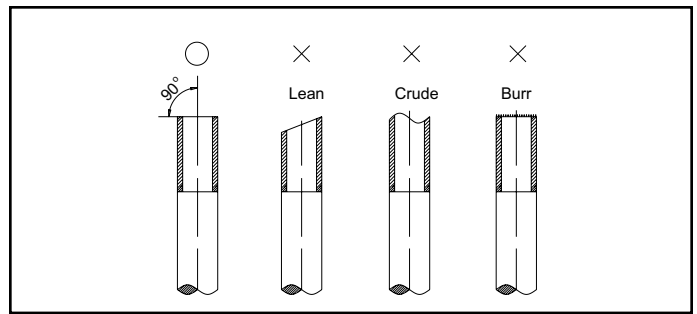

Figure 31. Cutting Piping
4. Cut the selected pipes with a pipe cutter. Make the cuts flat and smooth as illustrated in Figure 31.